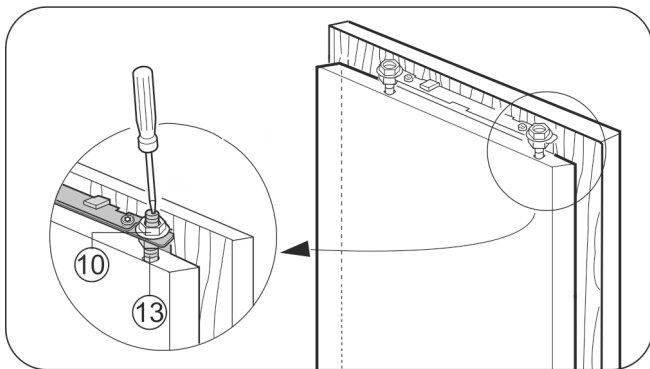

Fig. 22
- Tighten lock nuts Fig. 22 (10) with a no. 13 Allen key, making sure you counterhold the adjusting bolts Fig. 22 (13) with a screwdriver.